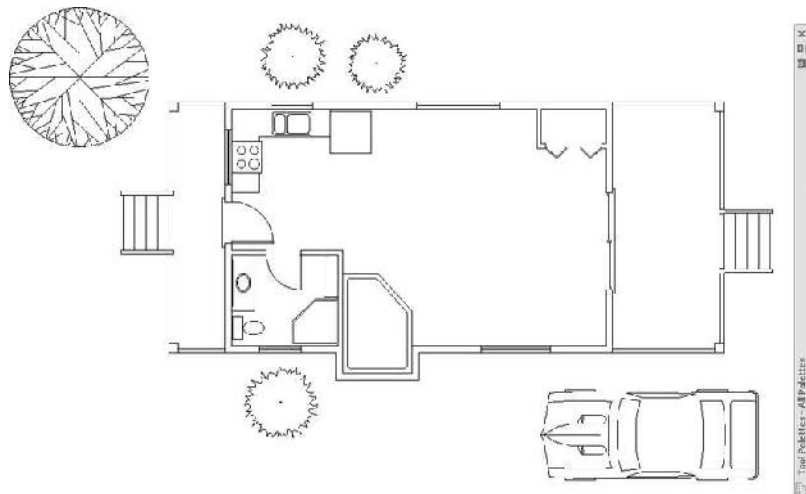

FIGURE 7.64: Trees and a car added from the Architectural palette
- ▶ Drag some of the blocks from the Civil, Structural, Electrical, Mechanical, Architectural, and Annotation sample palettes into the I07A-FPLAY0.dwg (M07A-FPLAY0.dwg) drawing, and experiment with them to see how they work. Figure 7.64 shows the cabin with a few trees and a car added from the Architectural palette. Some of the blocks on the default tool palettes are a special type of block called dynamic blocks. You'll learn about dynamic blocks in Chapter 9, "Using Dynamic Blocks and Tables."